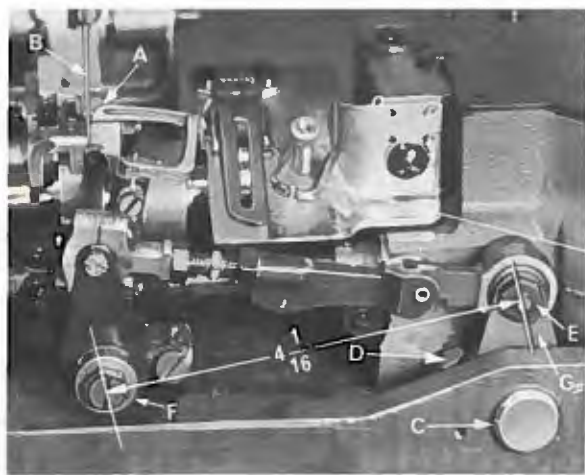

Fig. 5
Turn handwheel in operating direction until the point of the looper (A, Fig. 5), moving to the left is even with the left side of the needle (B). Note the height of the eye of the needle with respect to the looper point, then turn handwheel in the reverse
Moving of the looper drive lever shaft synchronizing stud is accomplished as follows: Loosen the clamp screw (D) of the looper drive lever. To move stud to rear (away from operator), a light tap with a small hammer, directly on the stud, is all that is required. To move stud forward (toward operator), remove the cloth plate, throat plate support, oil reservoir top cover and oil reservoir back cover, then, a light tap on the looper drive lever rocker shaft, toward the operator, is all that is required. Then, using the looper drive lever to take up the end play between the looper drive lever rocker shaft and its synchronizing stud, tighten the looper drive lever on the shaft, using screw (D, Fig. 5).
With the looper at the extreme right end of its travel, check the location of the center line of the right looper connecting rod bearing, using gauge No. 21227 CX. Remove nut (E, Fig. 5) and place hole in gauge over threaded stud. The left end of the gauge should locate against the right side of the looper rocker cone (F). If adjustment is necessary, loosen the clamp screw (D) and reposition the looper drive lever (G) as required. Tighten clamp screw. If gauge is not available setting can be checked with a scale. The distance between the center line of the looper rocker cone and the center line of the looper lever stud should be $4 \frac{1}{16}$ inch (Fig. 5).